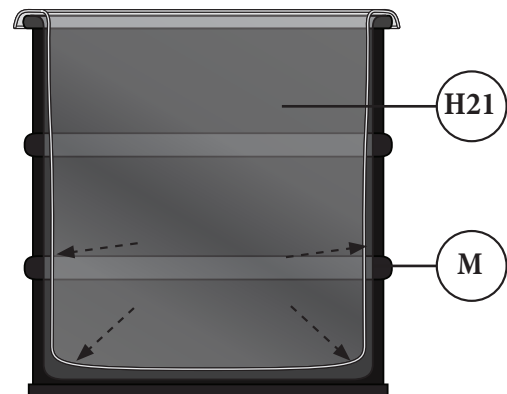

FIG. 19
Place a Liner Bag (H21) inside the Drum (M). Take care to ensure that the bag is fully expanded to the inside of the Drum (J1) and that the upper edge of the Liner Bag is folded out and over the lip of the Drum [FIG. 19].